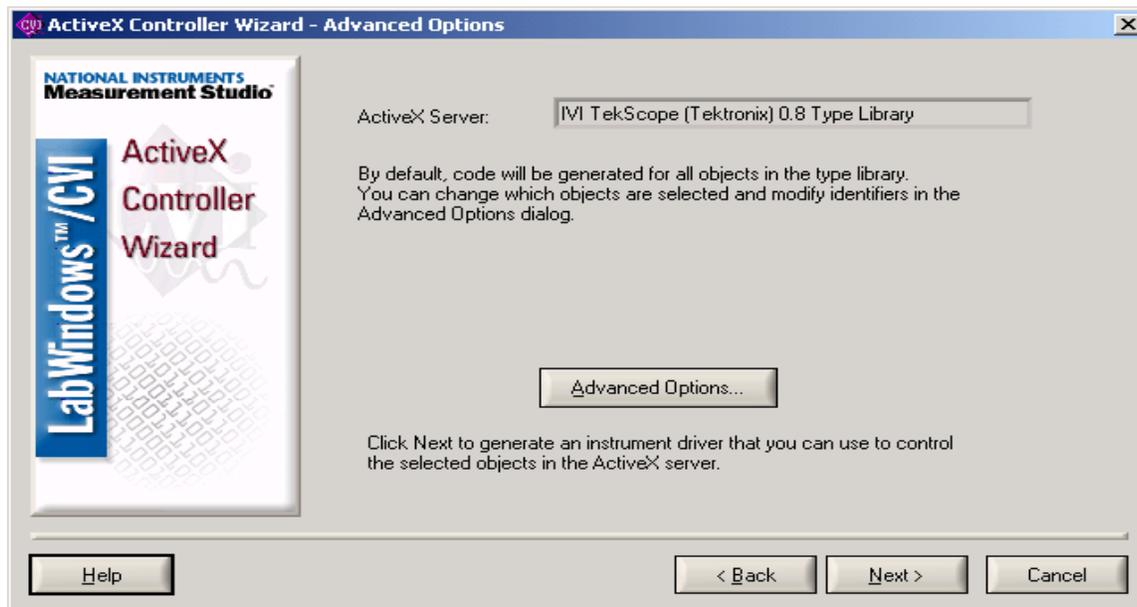
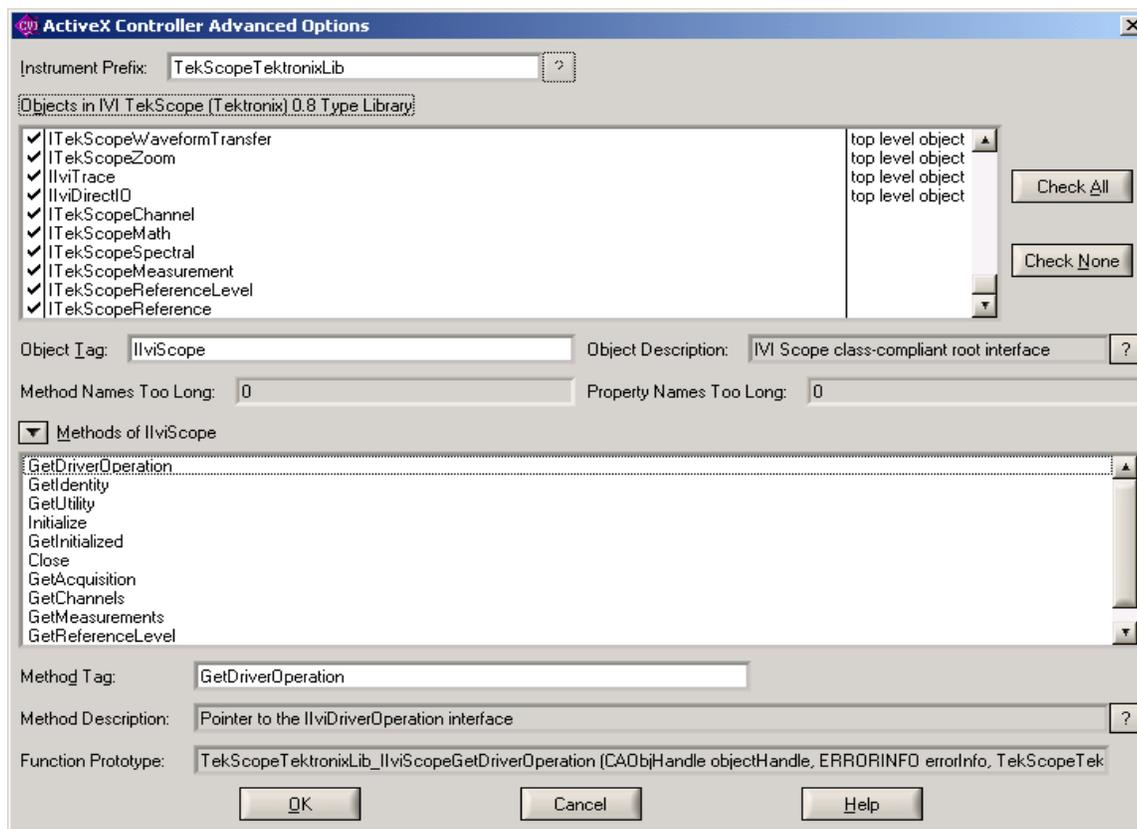

Figure 4: ActiveX Controller Wizard – Advanced Options
Figure 5: All Driver Interfaces, Methods, and Properties
Step 3 brings up the *ActiveX Controller Wizard – Advanced Option* dialog, as shown in Figure 4. Use this ActiveX Controller Advanced Options dialog box to select the objects you want to include in the instrument driver and to change the names of the functions and properties that the wizard generates. You can also browse through all the interfaces, methods and properties of driver, as shown in Figure 5.